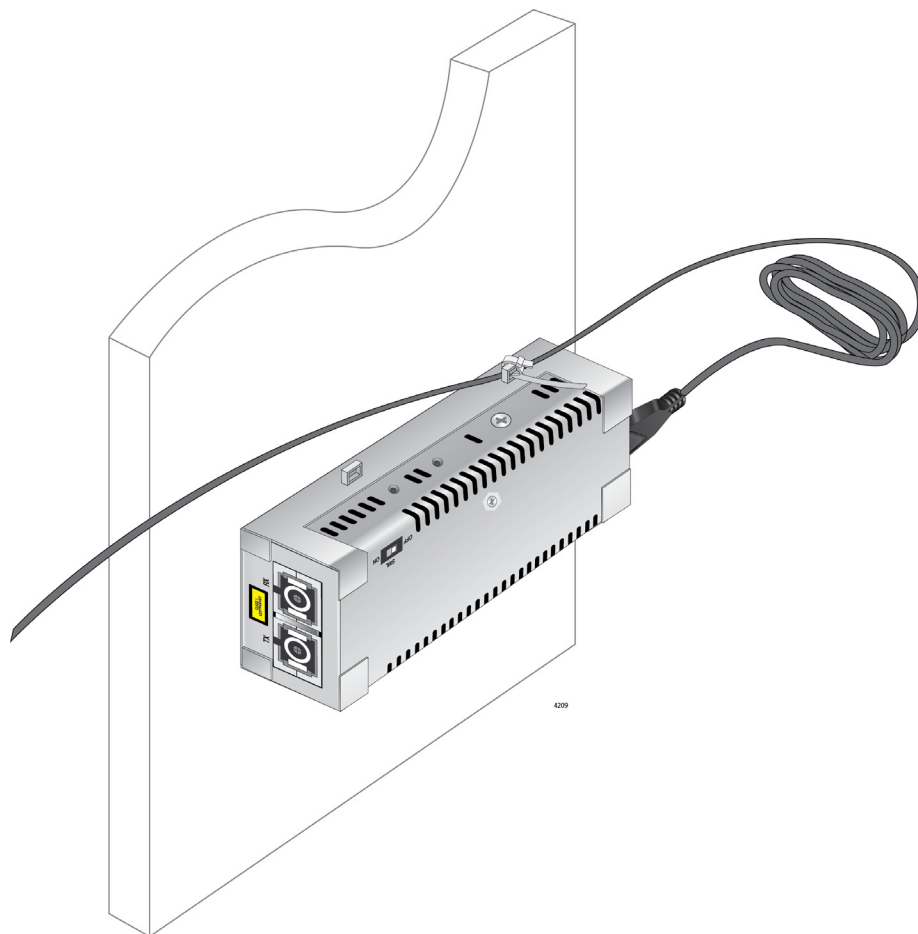

Figure 23. Securing the USB Cable Tie
2. Secure the USB cable to the media converter using one of the cable ties (included with the separately purchased wall-mount bracket) as described below and shown in Figure 23 on page 46: